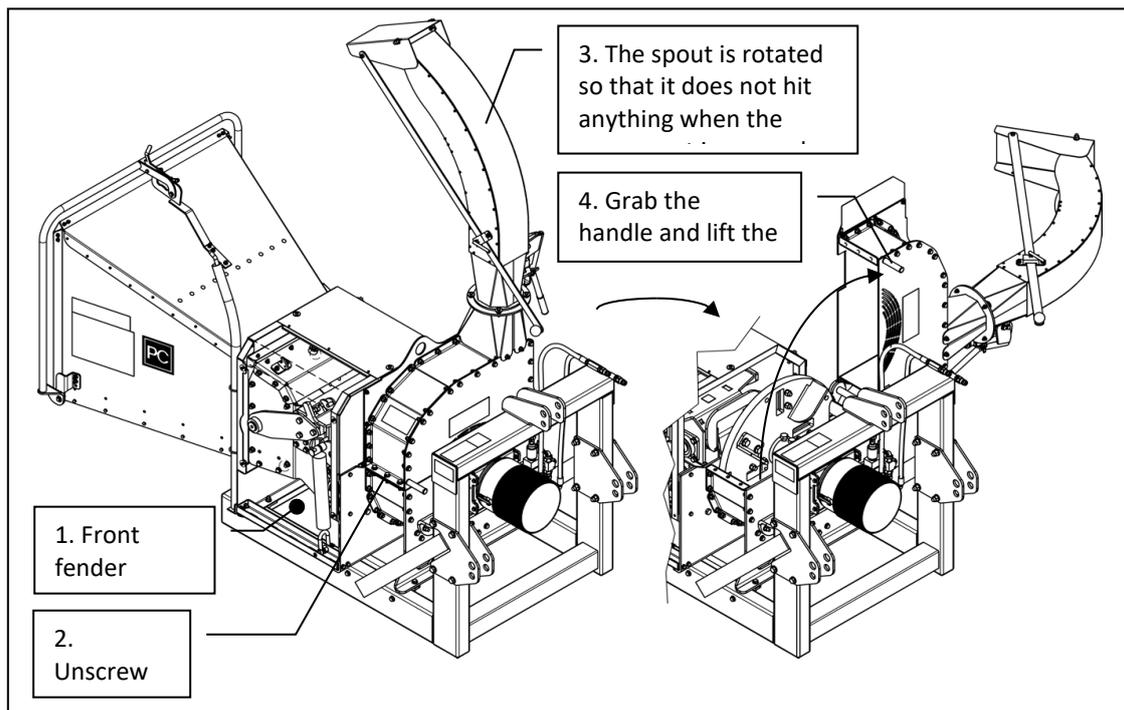

Figure 16
5. The upper part of the rotor housing can now be opened by grasping the handle on the upper part and lifting. See Figure 16.